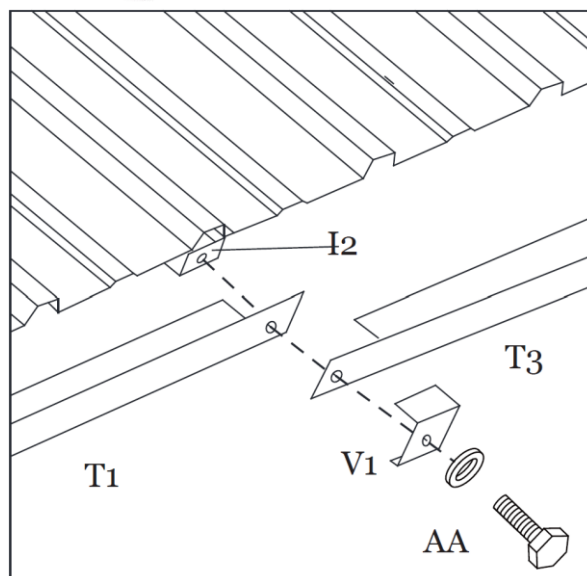

Figure 18-2
Step 18B: Secure Roof Trim (T1 and T2) to Main Roof Vertical Center Support (I2) on the 12-foot side of your gazebo using Trim Connector (V1) and Bolts/Washers (AA). See Figure 18-2 and 18-3
Step 18C: Secure Roof Trim (T1, T3 and T2) to the Main Roof Vertical Center Support (I2) on the 14-foot side of your gazebo using Trim Connector (V1) and Bolts/Washers (AA). **Tighten all Bolts.** See Figure 18-2 and 18-3.